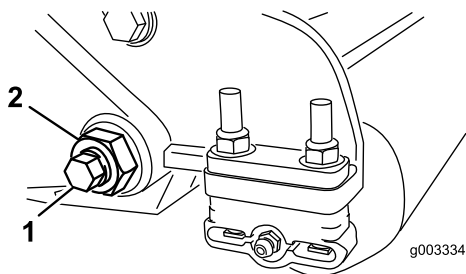
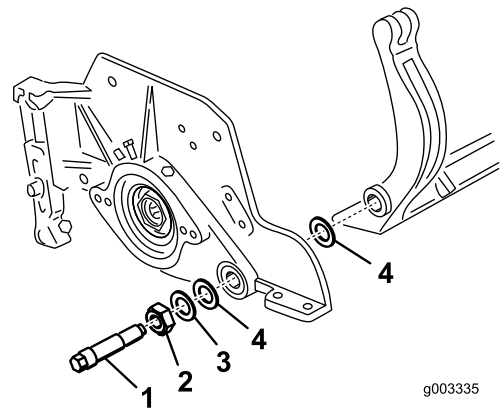

Figure 27
Figure 28
- On each side of the machine, loosen the locknut securing the bedbar bolt (Figure 27).
- Remove each bedbar bolt allowing bedbar to be pulled downward and removed from machine bolt (Figure 27). Account for 2 nylon and 1 stamped steel washers on each end of bedbar (Figure 28).
- Secure bedbar to each side plate with bedbar bolts (nuts on bolts) and 6 washers. A nylon washer is to be positioned on each side of side plate boss. Place a steel washer outside each of the nylon washers (Figure 28). Torque bedbar bolts to 27-33 (37-45 N-m). Tighten locknuts until the outside steel washer stops rotating and end play is removed but do not overtighten or deflect side plates. Washers on inside may have a gap.